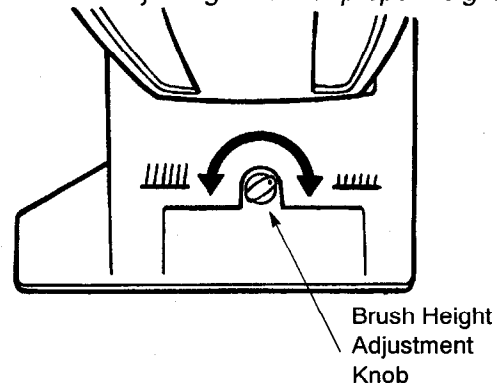

FIG. 2
4. Adjust brush height to suit carpet pile by turning brush height adjustment knob on brush housing (*Figure 2*).